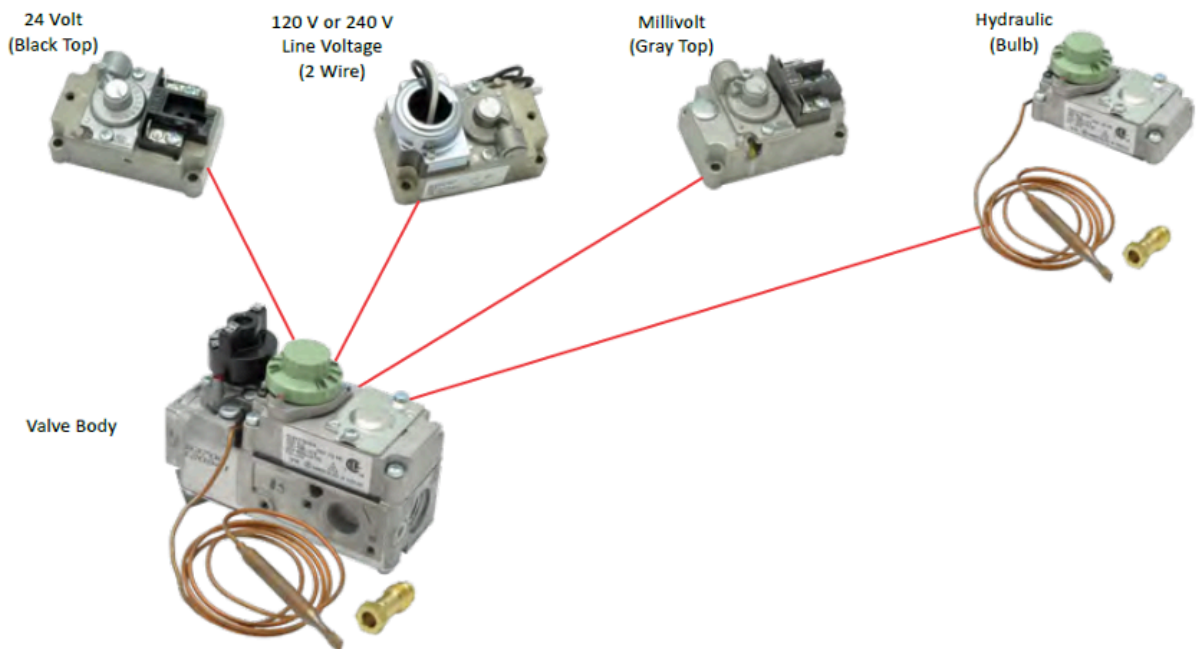

Figure 82. Actuator options
Figure 82 shows a common diaphragm operated control valve which can be supplied with different types of actuators, one of which is the hydraulic type which does not require a power source.
- Figure 82. “Actuator options” from Robershaw is used for educational purposes under the basis of fair dealing.